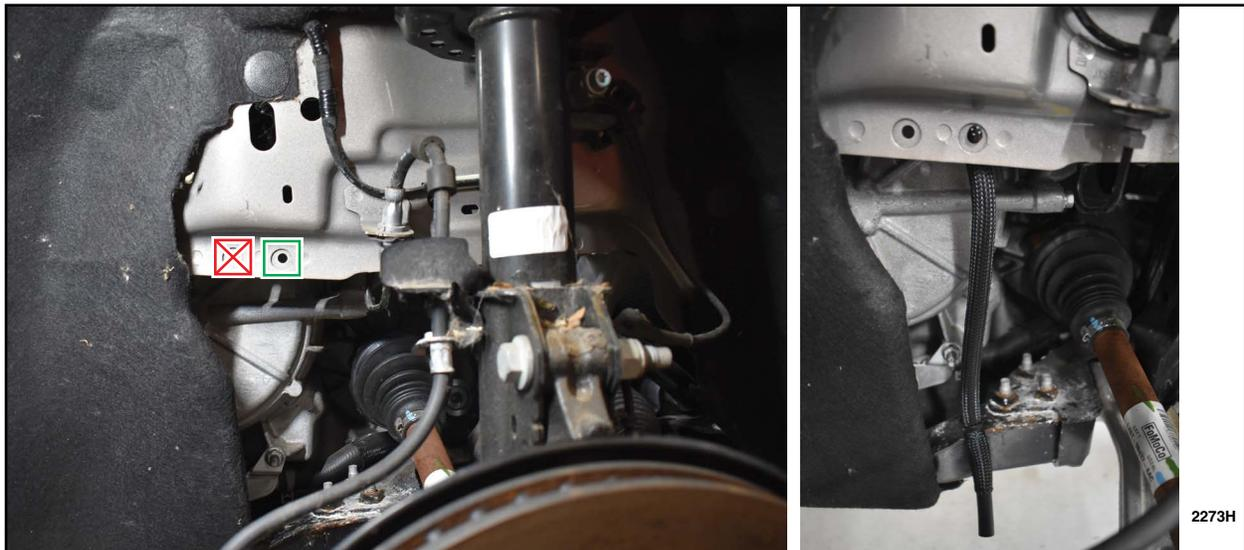

FIGURE 12
26. With the steering wheel turned to the left install the christmas tree connector as shown in the figure below. See Figure 12.